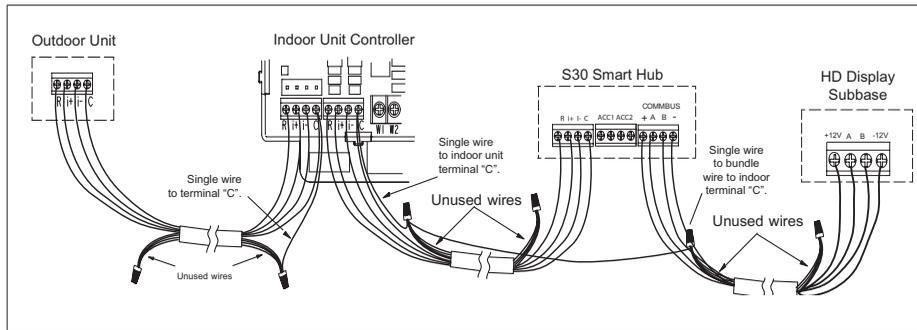

Figure 3. Wire Termination in Communicating Systems (Electrical Noise) - Typical
- Use wire nuts to bundle the unused wires at each end of the cable. A single wire should then be connected to the indoor unit end of the wire bundle and attached to the “C” terminals as shown in “Figure 3. Wire Termination in Communicating Systems (Electrical Noise) - Typical”.